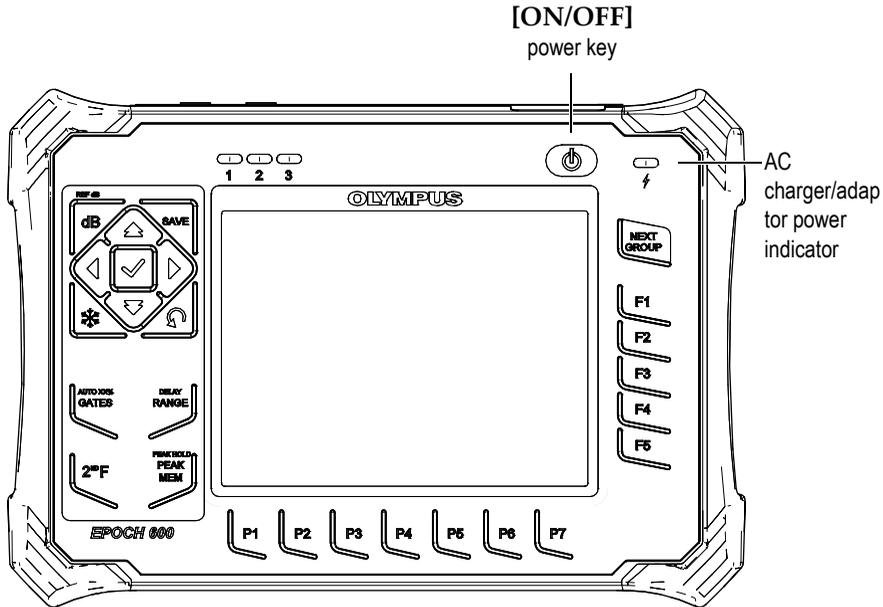

Figure 4-1 Location of the EPOCH 600 power key and indicator
Figure 4-1 on page 70 shows the location of the power key and of the AC charger/adaptor power indicator.
4. Turn on the EPOCH 600 by pressing the front panel power key (see Figure 4-1 on page 70).
The front panel power indicator activates (see Figure 4-1 on page 70).